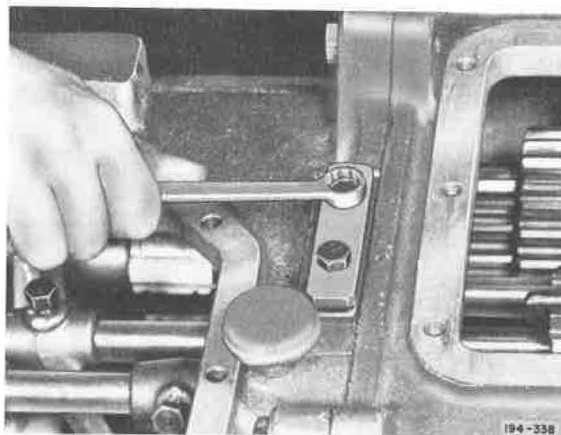

Figure 5-71. Removing Shifter Rail Poppet Ball Cover
3. Remove transmission case top opening covers. Cautiously remove shifter rail poppet ball cover (cover is spring loaded), pins and springs. See Figure 5-71. Poppet balls may be removed with a magnet.